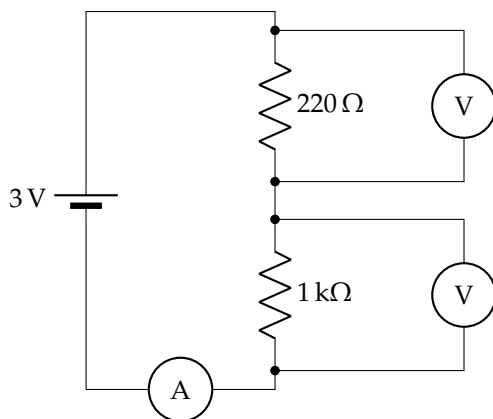

Figure 7: The circuit used to study a voltage divider.
Set up the circuit shown in Fig. 7, using a $220\ \Omega$ in series with a $1\ \text{k}\Omega$ resistor. You will also need to connect the ammeter in series between the resistors and the power supply ground. If you are still using the ammeter's high-current port from your measurements of the I - V curve of the light bulb, switch your leads to use the low-current port. You will measure voltages across each of the two resistors using a voltmeter.
1. Set up your circuit as shown in Fig. 7. Use the resistor color codes in Table 1 to choose a $220\ \Omega$ resistor and a $1\ \text{k}\Omega$ resistor.